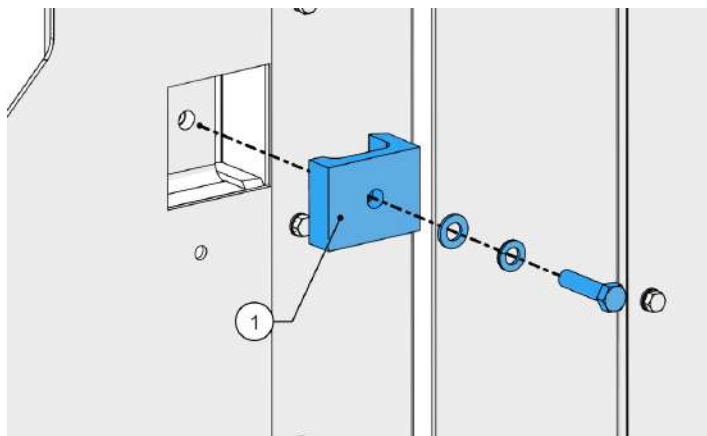

Figure 68 - Anvil clamp position
4. Locate the anvil clamp (1, Figure 68).